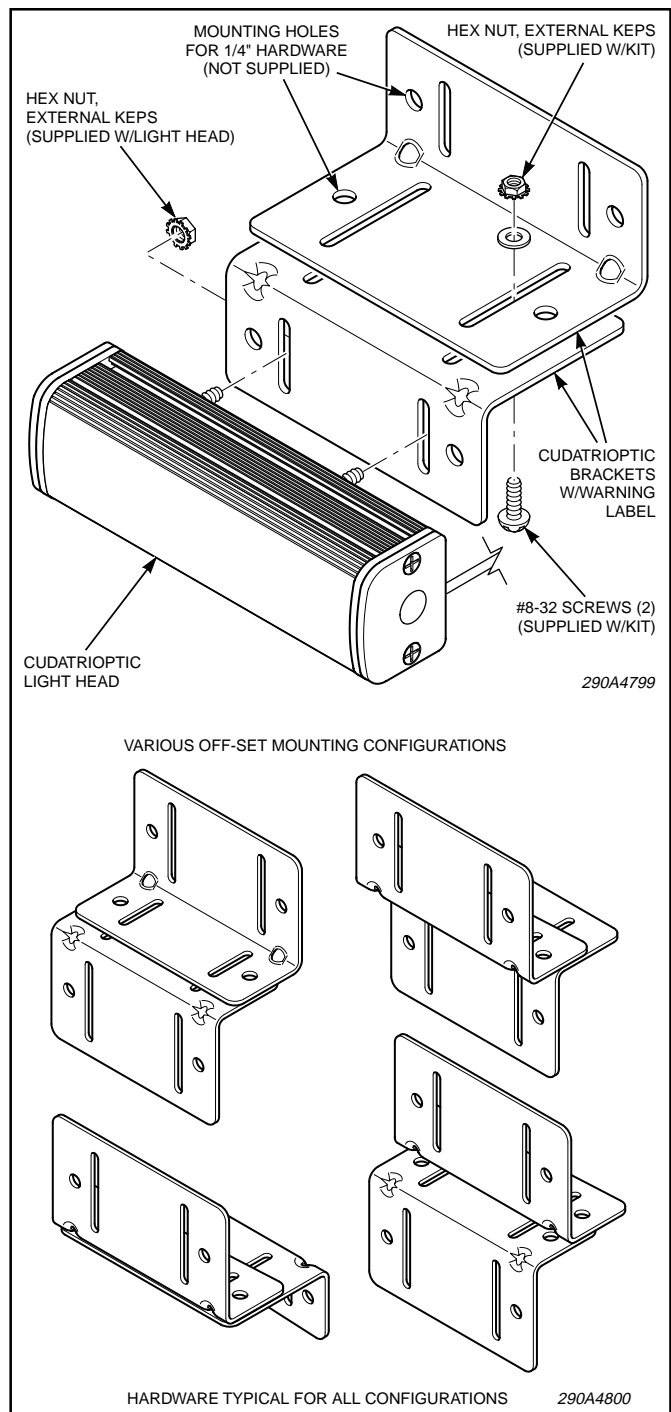

Figure 1.
1. First, determine which side of the unit will be attached to the mounting bracket. The two offset "L" brackets, included in the kit, allow for multiple assembly configurations due to the two leg lengths of the "L" brackets. See figure 1.
3. See figure 1. Two sets of mounting slots are provided on the offset "L" bracket to accommodate various mounting configurations/heights. Attach one bracket to the light head using the previously installed screws and the two keps nuts (supplied with the light head).
5. See figure 1. Using the #8-32 screws, washers, and KEPS nuts, secure the bracket/light head assembly to the surface mounted bracket. The screws should be installed through the corresponding 3/16" wide slots as shown.
4. See figure 1. Using the #8-32 screws, washers, and KEPS nuts, secure the bracket/light unit assembly to the surface mounted brackets. The screws should be installed through the corresponding slots as shown.